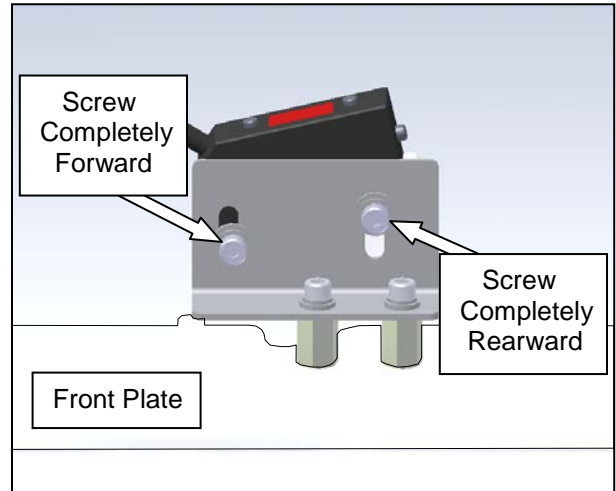

Figure 3-150. Photoelectric Sensor Positioning
10. Mount new sensor to the sensor bracket on the front finger plate. To achieve proper alignment of the sensor, position the sensor as shown in (figure 3-150). The left screw should be completely to the front of the slot, while the right screw should be completely to the rear of the slot. This will position the sensor correctly to "see" the bag film.